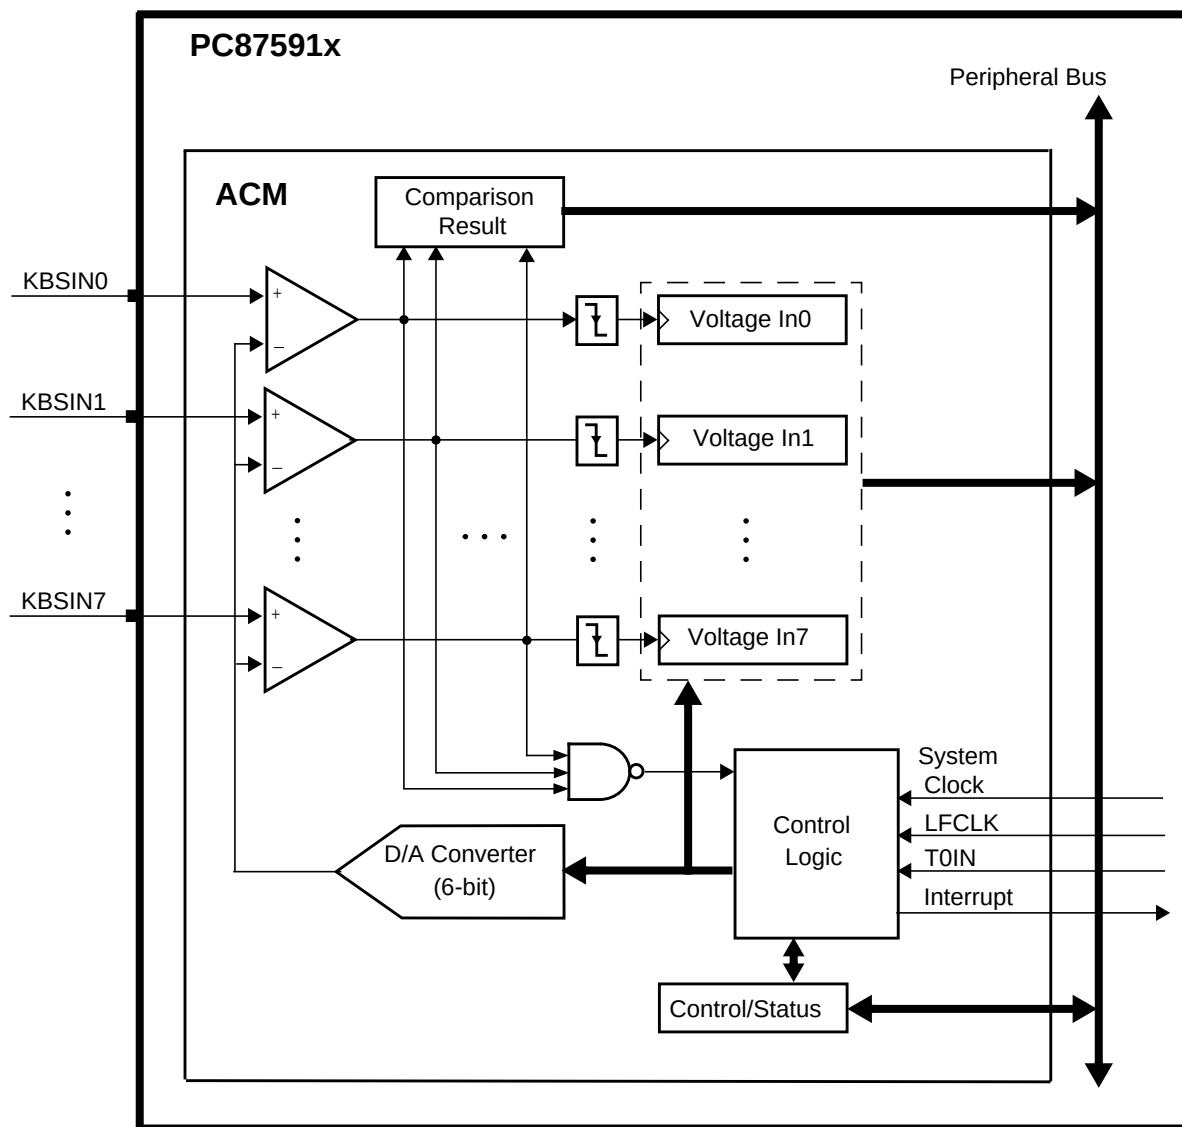

Figure 72. ACM Functional Diagram
Inputs. The ACM has eight analog inputs with a voltage ranging from 0V to V_{CC} (FS), as shown in Figure 72. The voltage level at each input is compared with a reference level, generated by a 6-bit D/A converter.